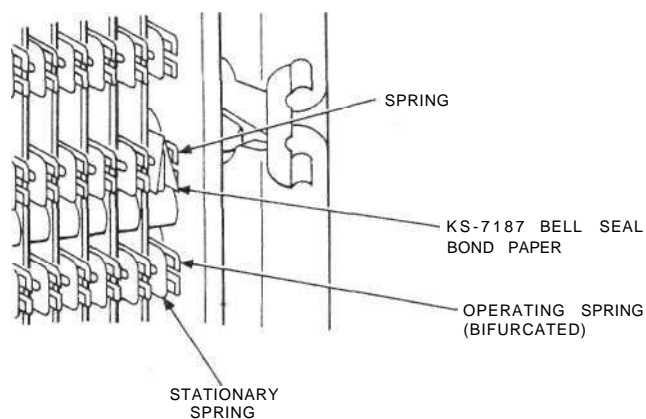

Fig. 42—Insulating Contacts of 245- and Similar-Type Relays
(1) **Flat-Spring Type:** Cut the strip of KS-7187 paper to the required size. Fold the paper and insert it between the contacts as shown for typical relays in Fig. 42.